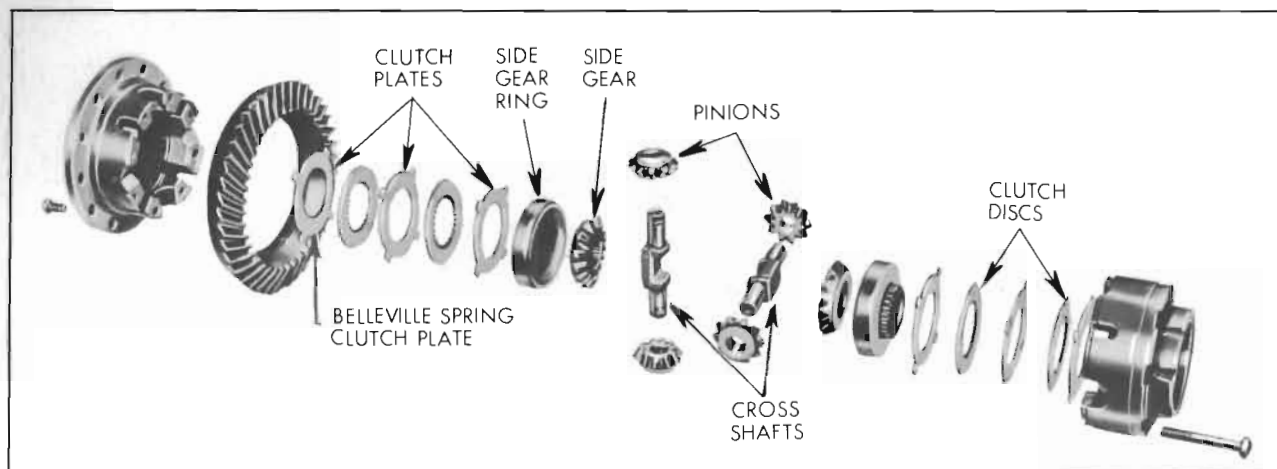

Figure 6-38—Positive Traction Differential—Exploded
Each clutch pack consists of three clutch plates which are keyed to the differential case by external lugs, and two clutch discs which are splined internally to the side ring gear. The ring is splined in turn to the axle shaft. Whenever a load is applied to the differential, each side gear ring is forced outward, squeezing its clutch pack against the differential case. See figure 6-38.
4. Oil clutch plates and discs thoroughly with Special Lubricant No. 531536 and install clutch packs. If inspection showed plates and discs to be in good condition, install original clutch packs on each side gear ring according to Figure 6-38. If *any* plates or discs were defective, install two new clutch packs.